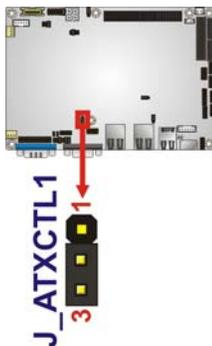

Figure 4-3: AT/ATX Power Select Jumper Location
- Jumper Location:** See **Figure 4-3**
The location of the AT/ATX Power Select jumper is shown in **Figure 4-3** below.